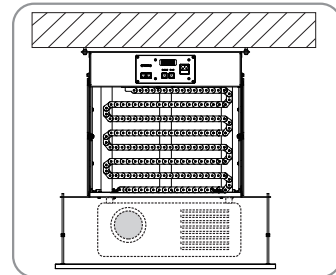

Figure 19
13. Adjust the height of decorative ceiling plate depended on the actual ceiling height, and twist setscrew nut on the 200mm long screws assembled in the four corners of decorative ceiling plate. The max height is about 200mm(Figure 19). Please tightening screws to avoid looseness.